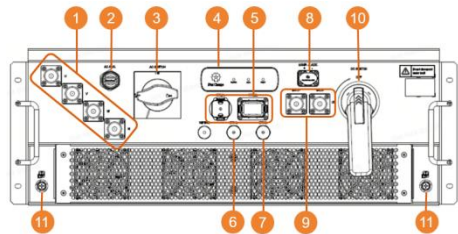

Figure 3-3 Structural layout
The AC molded case circuit breaker (as shown in ③ in Figure 3-3) is the connection switch between the converter and the power grid; The DC disconnecter (as shown in Figure 3-3 ⑩) is the connection switch between the converter and the battery; When necessary, the converter can be safely disconnected from the power grid and the converter from the battery.